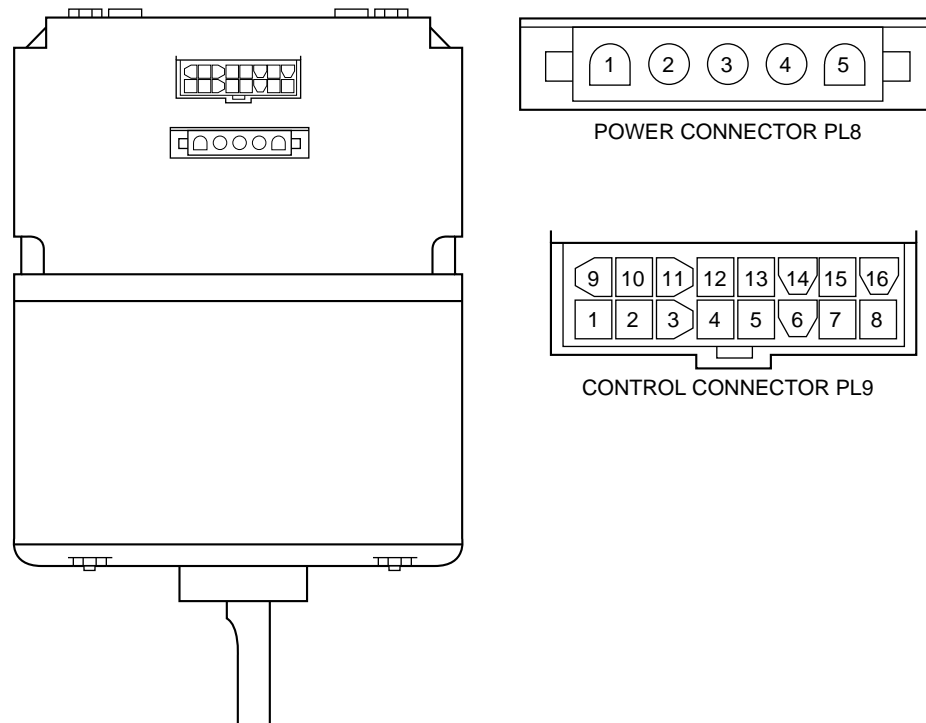

Fig. 5—ICM Blower Motor
G.E. Integrated Control Motors (ICM) shown in Fig. 5 and permanent-split-capacitor (PSC) motors operate differently. PSC motors are basically fixed-multiple-speed motors, that is they operate within small ranges of speed. The ranges, usually 4, can be selected by connecting to different 115-vac motor wires. The speed ranges are small, about 100 RPM wide, and are dependent on motor's synchronous speed (1200 for most furnaces). The characteristics of PSC motors limit the selections to fixed speeds between about 700 and 1100 RPM. ICM motor speeds are infinitely variable from 300 to 1400 RPM and are dynamically controlled to precisely control airflow CFM. The start and stop characteristics of PSC and ICM motors differ in that PSC motors ramp up to speed rapidly and coast to a stop slowly. ICM motors ramp up to speed at a controlled rate to reduce start-up noise perception (4 to 11 sec, depending on target operating CFM). ICM ramp-down time is the same as ramp-up time. ICM ramp-up and ramp-down times are additive to blower on and off delays, respectively. PSC motors are energized with 115 vac only when operating. ICM motors are energized with 115 vac whenever power is available at 2-stage furnace control, but operate only when 24-vac motor control input(s) at PL9 are ON.